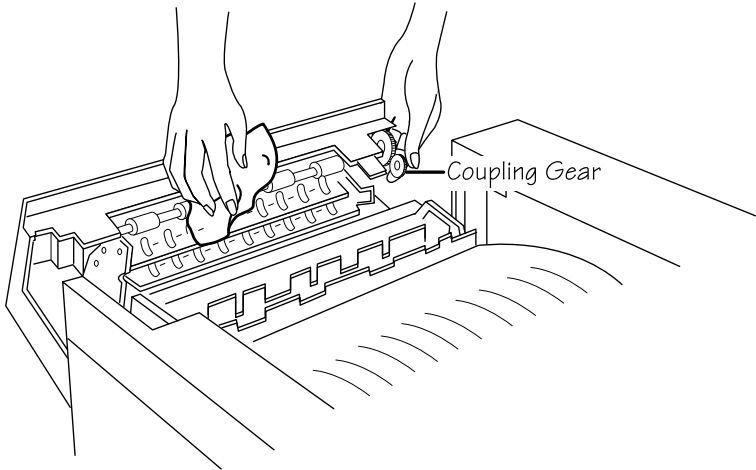

Fig. 6.20 Clean the Fuser Exit Rollers
2. Use a dry, lint-free, cotton cloth and gentle pressure to clean the paper exit rollers and plates (fig. 6.20). Turn the coupling